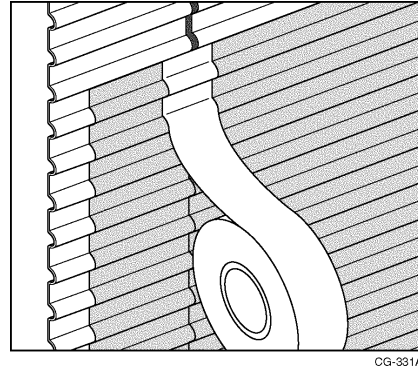

Figure 23 Taping Slit Body Seams
- b. Then cover the slit body seams with a 2 inch (5.1 cm) wide strip of masking tape. See Figure 23.